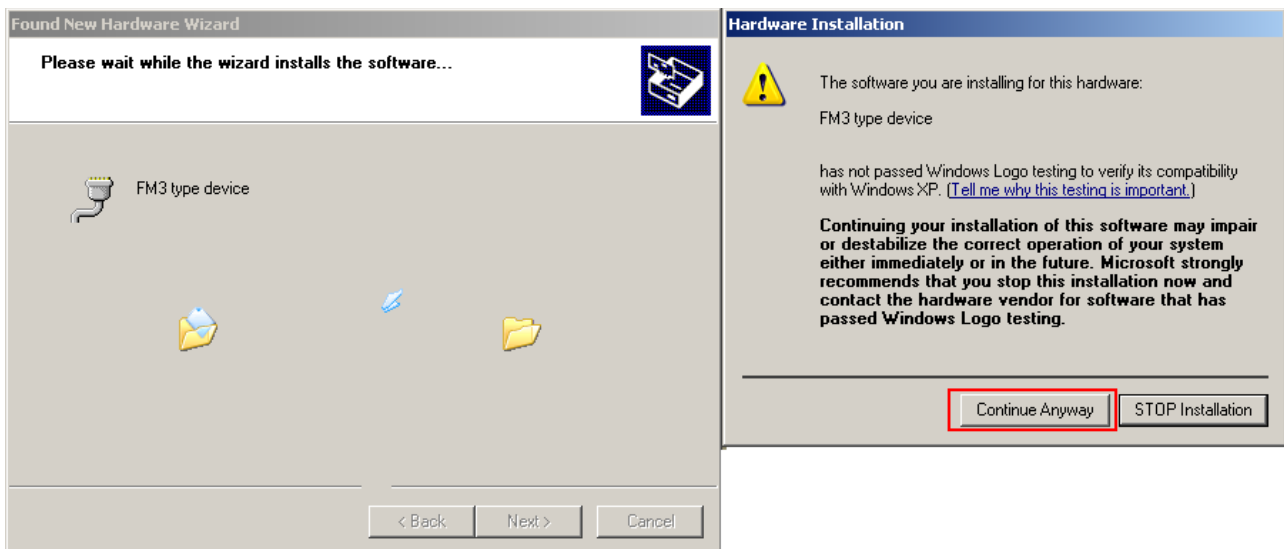

Fig. 1.3.4 Driver installation
4. Then driver installation should proceed. If asked, click „Continue Anyway“ (Fig. 1.3.4).